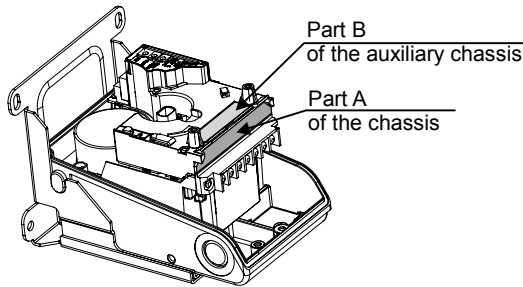

Figure 7. Parts to be removed for mounting the auxiliary switch
- Assembling the switch unit (See Figs. 7 and 8.)
- (1) Break the parts A (of the chassis) and B (of the auxiliary chassis).